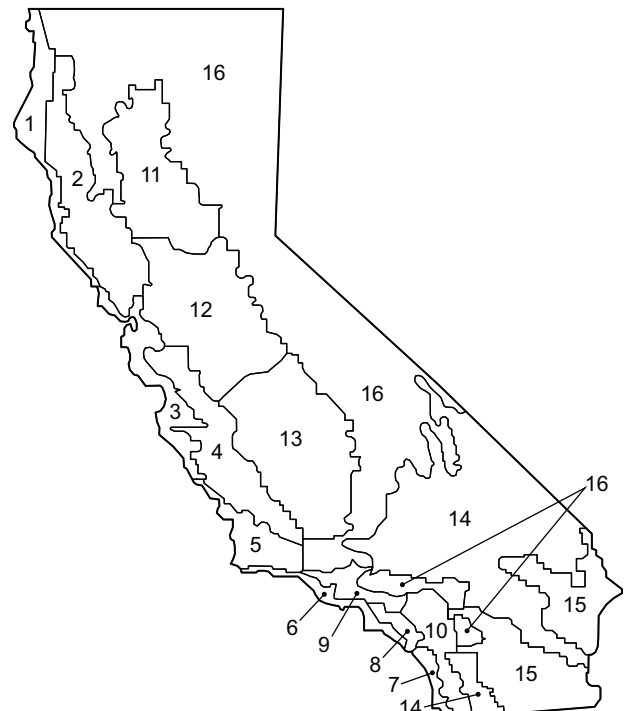

Fig. 94 – California Title 24 Zones
b. See Fig. 94 for map of California Title 24 zones.